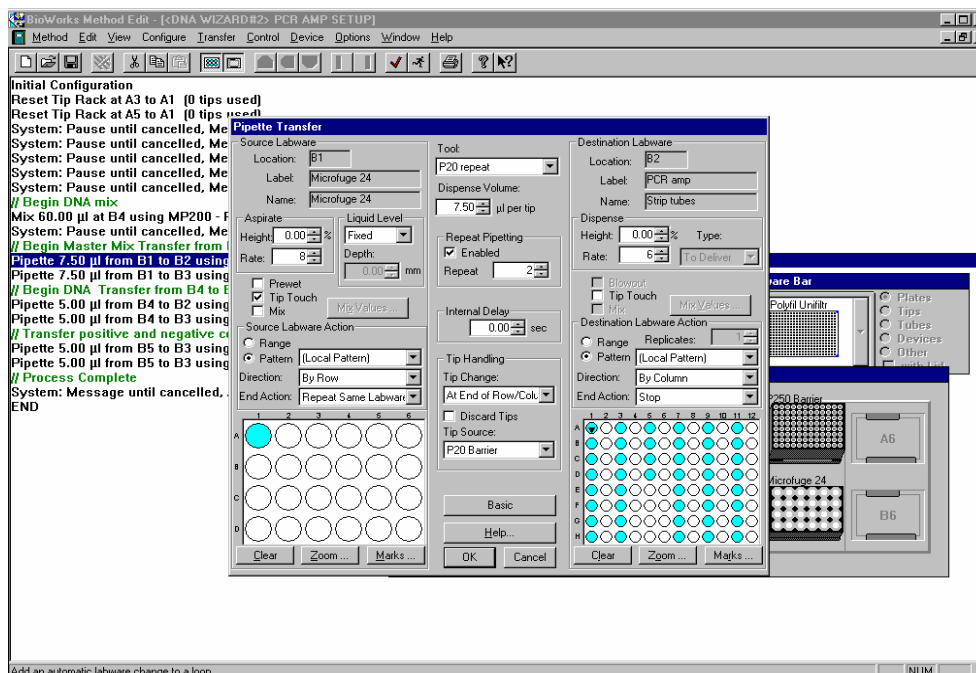
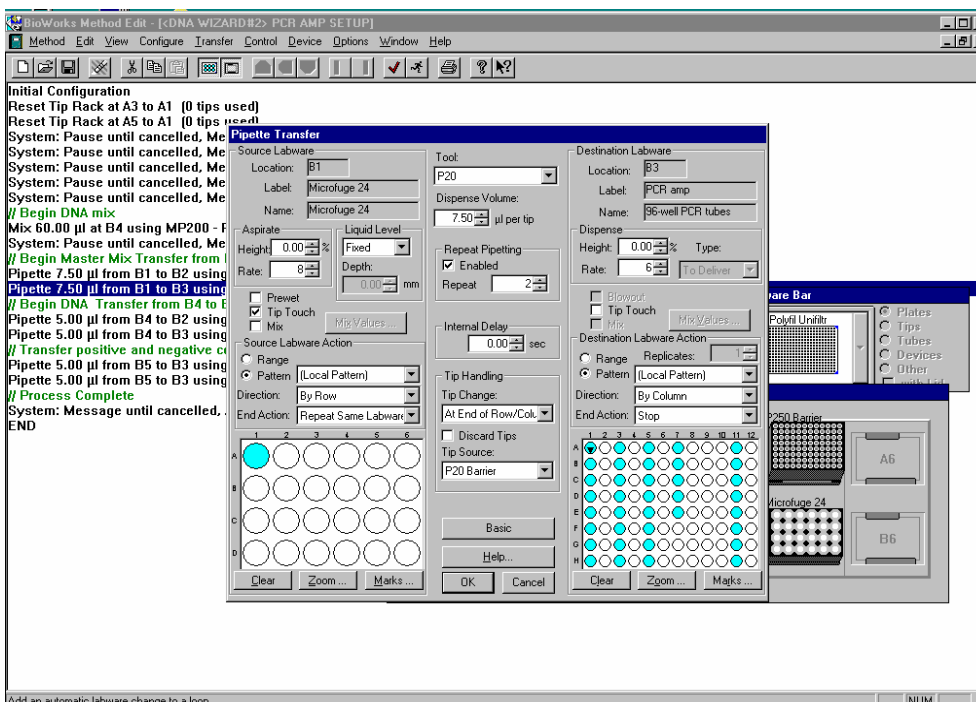

Figure 19A. Window for pipetting from B1 to B2
Figure 19B. Window for pipetting from B1 to B3
5.6.2.6 Since the 0.2 mL PCR tubes that will be used have attached caps, the pattern of samples will be extended so that each column of PCR tubes is separated by a blank column in order to accommodate the caps (Figure 19A, represents samples 1 - 48 and Figure 19B, represents samples 49 – 88, plus positive and negative amplification controls or just the positive and negative amplification controls if 48 or less samples have been amplified). The pattern of the samples will be maintained. The 11th column in second PCR plate, will be designated for the set up of the positive and negative controls. NOTE: PCR tubes **SHOULD NOT** be placed into wells that **DO NOT** contain a sample/reagent blank/plate blank.
5.6.2.7 Double click on the black line “Pipette 7.5 µL from B1 to B2 using P20 repeat – P20 barrier” to open the window shown in Figure 19A. This line is just below the green
| <p>line stating “Begin Master Mix Transfer”. Double click on the “Pipette 7.5 µL from B1 to B3...” to open the window shown in Figure 19B.</p> <p>5.6.2.8 The Pipette Transfer windows will open as shown in Figures 19A and 19B. The window displays the settings for the aspiration from the 1.5 mL microfuge tube containing the PCR master mix shown in plate position A1 on the left side of the window, known as the “Source Labware”. The window also displays the dispense settings of the master mix into the PCR strip tubes for the amplification on the right side of the window, known as the “Destination Labware”.</p> <p>5.6.2.9 Using the BioMek/AluQuant loading worksheet as a guide for the samples and reagent blanks, highlight the wells on the right, lower portion of the Pipette Transfer window (i.e., 96 well grid) which contain samples and reagent blanks. In addition, highlight the wells in the 11th column of the second plate where the positive and negative controls are to be pipetted. The BioMek® robot will skip the non-highlighted tubes/wells. Click OK for the settings in the windows shown in Figures 19A and 19B when finished.</p> <p>NOTE: This specific well designation needs only to be performed at the PCR master mix transfer step and when the specific tubes are designated for dispensing positive and negative controls. A single channel pipette tool will be used to dispense the master mix into the tubes/wells that have been designated. A multi-channel pipette tool is used to transfer the diluted DNA sample to the PCR tube. Only air will be transferred to wells that contain no sample/reagent blank/plate blank.</p> <p>5.6.2.10 Place a 24 well Microfuge holder in deck position B1 and B5 containing white inserts that will hold 1.5 mL tubes firmly in place. Place the capped 1.5 mL centrifuge tube containing master mix in deck position A1 of the Microfuge holder at deck position B1. Place a 1.5 mL tube containing the appropriately diluted positive control (9947A) into deck position A1 of the Microfuge holder at deck position B5. Place extra diluted positive control (approximately 10 additional uLs) into the tube to insure there is a sufficient quantity. Place a 1.5 mL tube containing approximately 50 µL of the negative control (sterile Type I water) into deck position A3 of the Microfuge holder at deck position B5. The operator will be given a prompt when to uncap the lids.</p> <p>5.6.3 As shown in Figures 20A and 20B, double click on the method line stating “Pipette 5 uL from B4 to B2 using MP20-P20 Barrier” that appears just below the line in green stating “Begin DNA transfer from B4 to B2”. The columns of DNA to be transferred must be selected under Source labware and using the Pipette Transfer window that pops up. Under the Destination labware, select the alternating columns of PCR tubes to which the DNA needs to be transferred. The software is capable of directing the robot to function in sequential order (eg. transferring the 2nd column of normalized DNA in the Normalization plate to the 3rd column containing the PCR tubes). Normalized DNA columns 1-6 may be transferred to the first 96 well PCR support base containing 6 alternating columns of amplification tubes. Click OK when finished.</p> <p>5.6.4 Pipette on the line just below the line described above (Pipette 5 uL from B4 to B3 using MP20-P20 Barrier) to transfer the remaining columns of normalized DNA also using the alternating columns of amp tubes in the Destination labware setting. Do not select the positive and negative control column. Click OK when finished.</p> | |